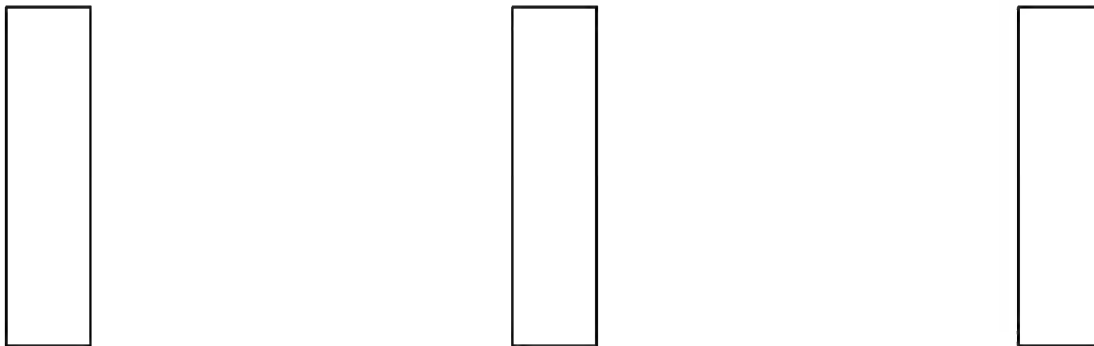

FIGURE 15-3.15 Box family copied for *Type* versus *Instant* study
26. Make two copies of the *Box Family 6'-0"* towards the **right** as shown in Figure 15-3.15 below.